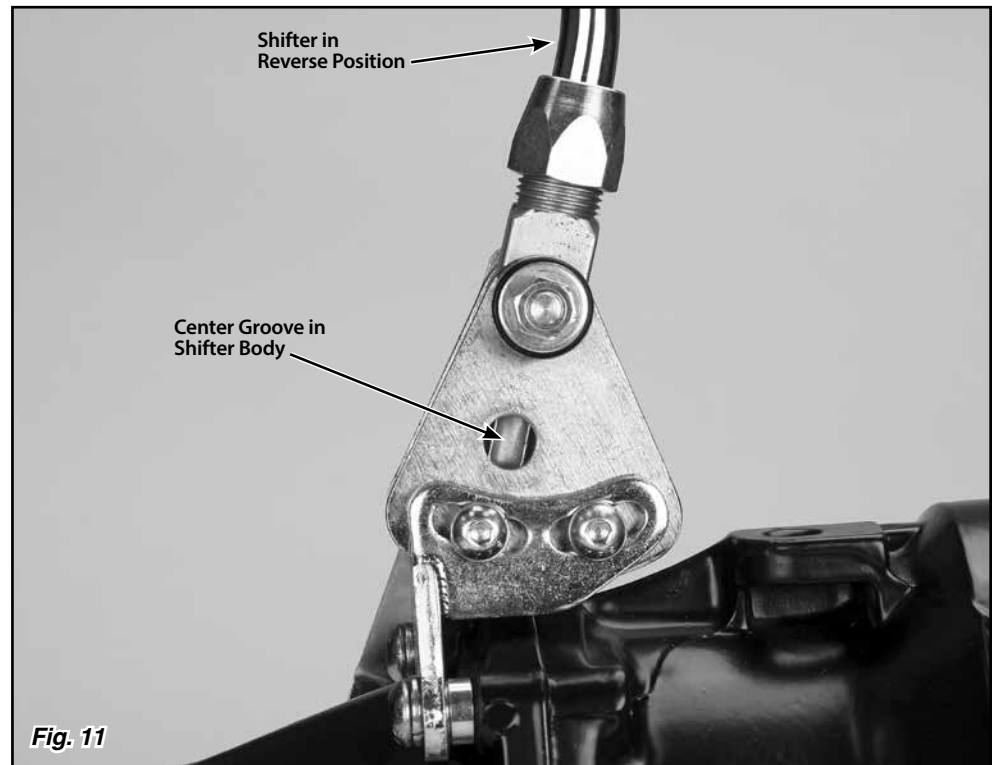

Fig. 11
Step 16: Put the Shifter into the Reverse position. Reposition the switch plate so the hole in the switch plate lines up with the center groove in the shifter body. **Fig. 11** Screw the provided aluminum adjuster plug into the neutral safety switch opening. Moving the switch plate slightly forward and back while you are screwing the aluminum adjuster plug in will help get the shifter body centered on the adjuster plug. **Fig. 12**